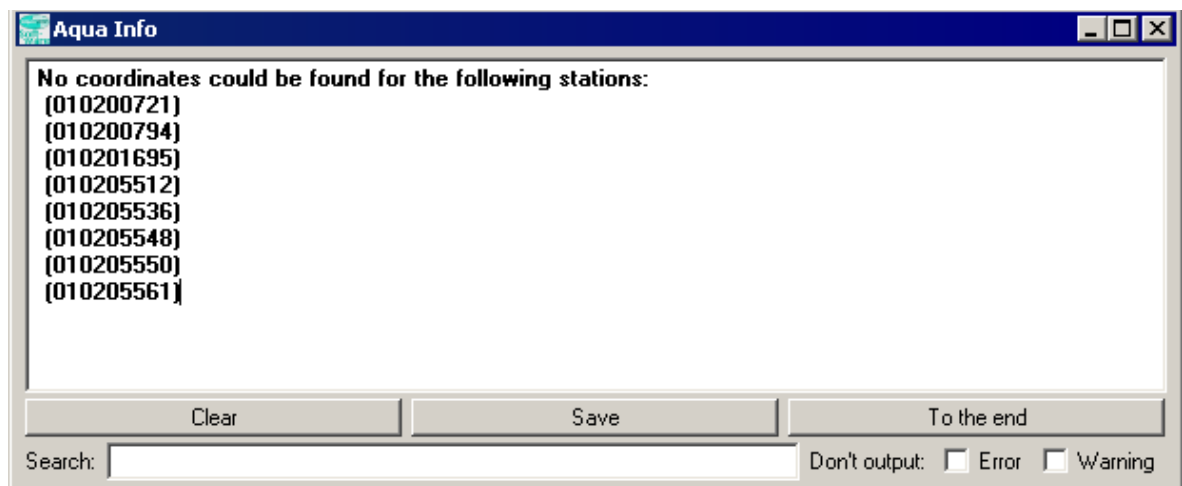

Figure 5.12: Info window for stations without coordinates
- ☒ **List stations without coordinates** outputs the stations that are found during the regeneration of the station layer and which don't have coordinates in an info window (↔ fig. 5.12).